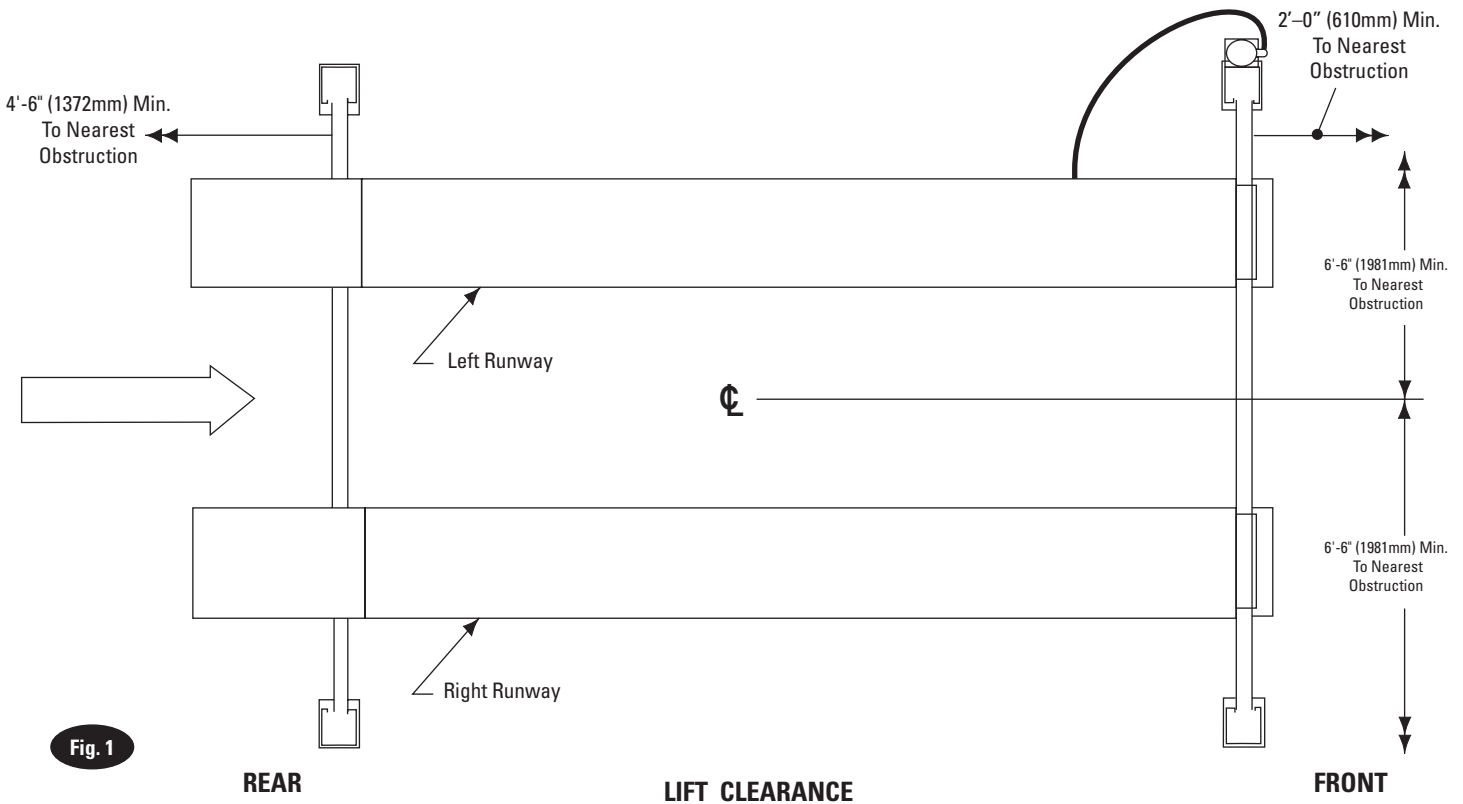
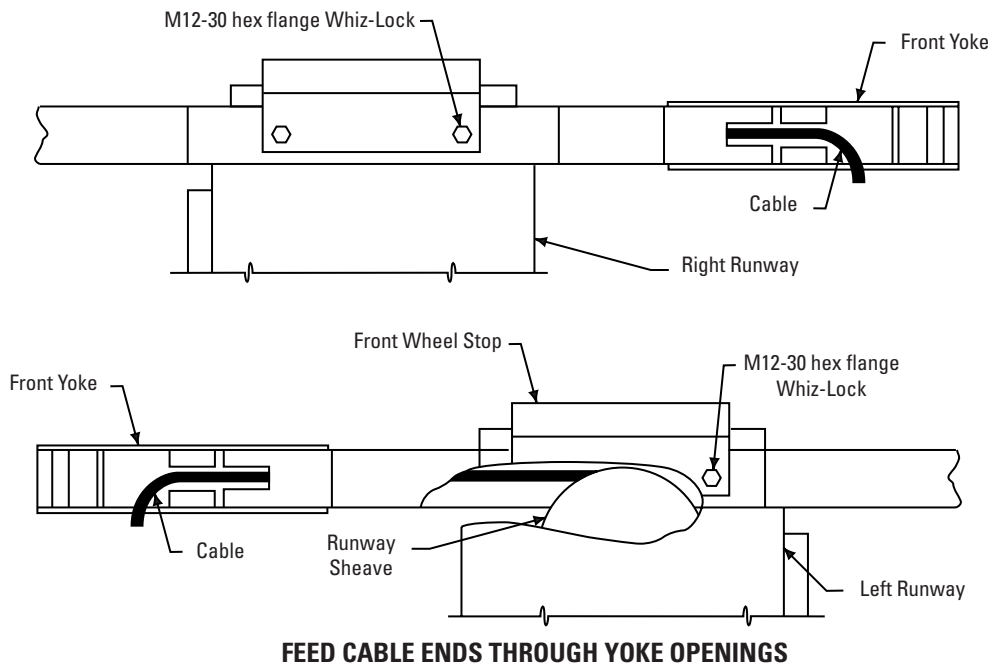

Fig. 1
Fig. 4
**1. Lift Location:** Use architects plan when available to locate lift. Fig. 1 shows dimensions of a typical bay layout. For power unit at right front, rotate lift 180°, leaving ramp/chocks and wheel stops in original position. Lift floor area should be level.
- C. Position front and rear yokes at respective ends of runway, Fig. 1. The opening in the side of the yokes should be lined up with the cable sheaves in the runway ends. Feed cable ends through yoke openings, Fig. 4. Do not assemble sheaves in yoke ends at this time.
With the openings in the yoke tube side lined up with the left runway ends, align the two (2) holes in the top of the front yoke tube with the slots in the runway end plates and the holes in the front wheel stops. Bolt runway to the yoke using four M12-30 hex flange bolts, Fig. 4.